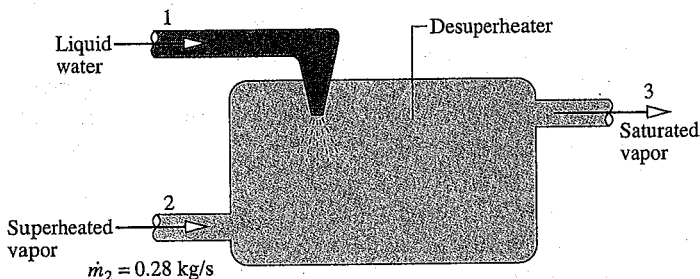

Fig. P6.86
6.86 By injecting liquid water into superheated steam, the *desuperheater* shown in Fig. P6.86 has a saturated vapor stream at its exit. Steady-state operating data are provided in the accompanying table. Stray heat transfer and all kinetic and potential energy effects are negligible. (a) Locate states 1, 2, and 3 on a sketch of the *T-s* diagram. (b) Determine the rate of entropy production within the desuperheater, in kW/K.